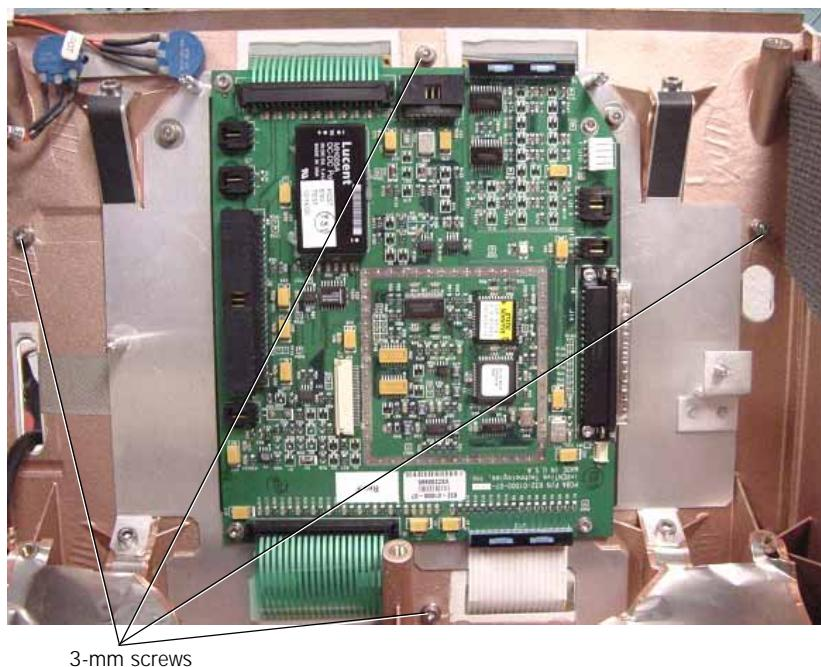

Figure 9-23: 9.5-in. GUI Assembly
Follow these steps to remove the 9.5-in. GUI assembly (Figure 9-23):
4. Use the four 3-mm screws to reinstall the GUI to the top enclosure (Figure 9-23).